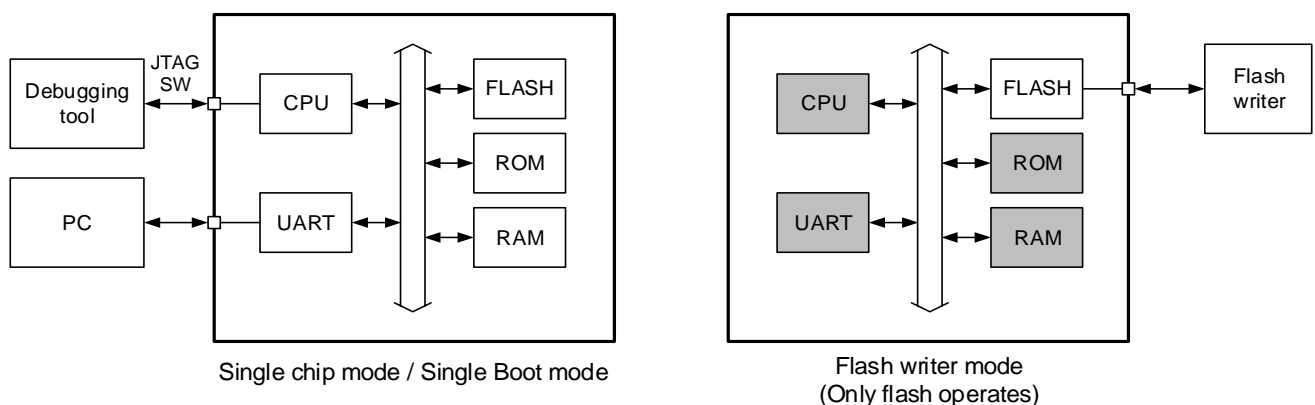

Figure 5.1 Measures for security risk
TPM4M Group(1) contains two measures for security risk to prevent unauthorized access. Table 5.24, Table 5.25 and Figure 5.1 show the assumed access paths and protection targets for each operation mode.